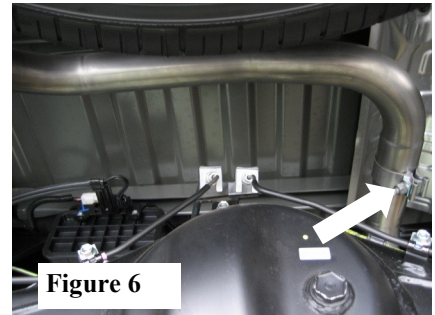

Figure 6
3. Place a clamp over the expanded end of the **Over Axle Pipe** inserting the inlet to left-side outlet of **Muffler Assembly**. Do Not tighten the clamp. (See Fig. 6)